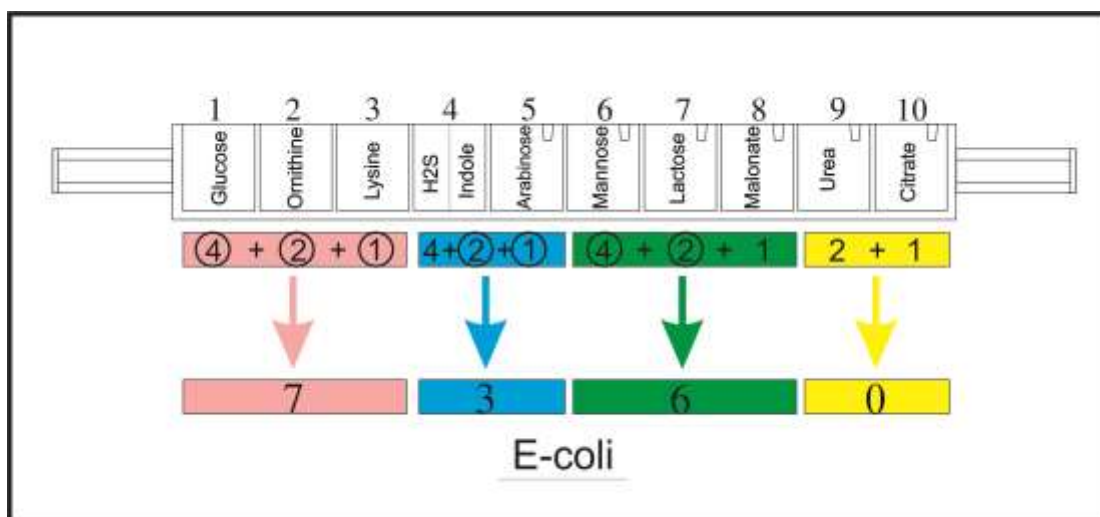

Figure 2: How to code 4 digits to detect Gram-negative bacilli
2. Mark each positive test result by circling the number indicated under the corresponding compartment on the coding sheet (Figure 2).
5. Find the four-digit number in the Interpretation Guide page. In the example presented in Figure 2, the isolate performed was identified as *Escherichia coli*.
Diagnostic codes for GNB-API were constructed using percentage data available in references for biochemical tests performed by GNB-API. To interpret the GNB-API test, each four-digit number is divided into 3 tests (except the last part which consists of two tests). Each test has a code of 4, 2 and 1 respectively. Then, by adding the positive numbers, a 4-digit number is obtained, which can be identified as a single code (Figure 2). In cases where two or more microorganisms are mentioned, confirmatory tests are required.